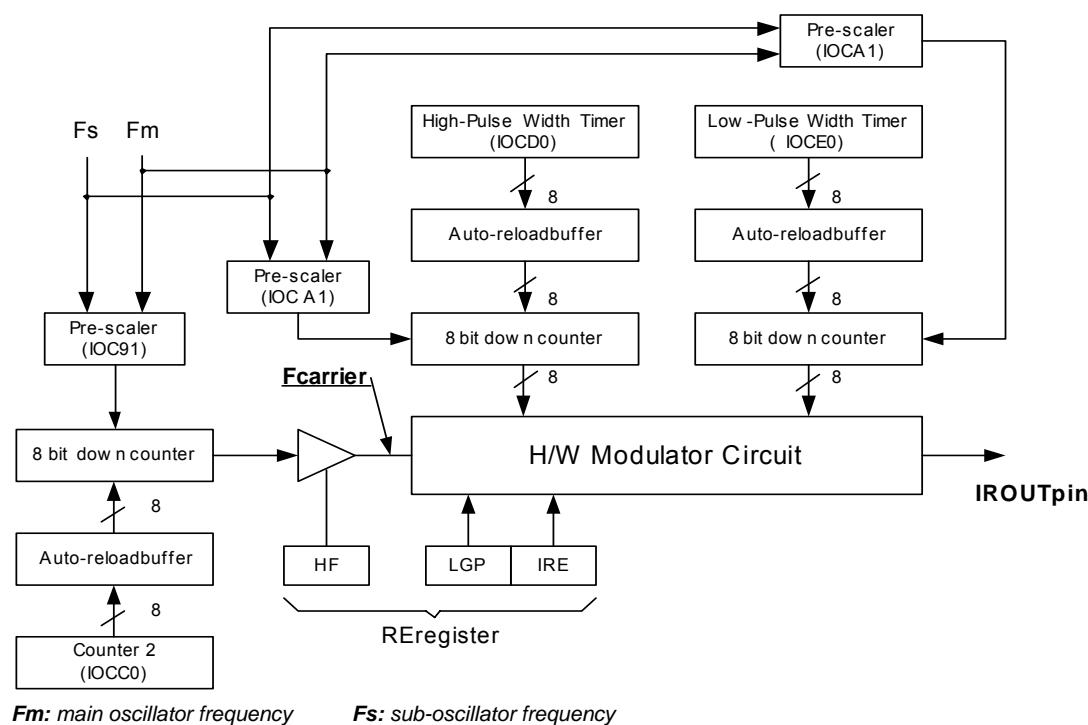

Figure 6-20 IR/PWM System Block Diagram
This LSI can output infrared carrier in user-friendly or in PWM standard waveform. The IR and PWM waveform generated functions include an 8-bit down count timer/counter, high-pulse width timer, low-pulse width timer, and IR control register. The IR system block diagram is shown in Figure 6-20. The IROUT pin waveform is determined by IR control register (RE), IOC90 (Counters 1 and 2 control register), IOCA0 (high-pulse width timer, low-pulse width timer control register), IOCC0 (Counter 2 preset), IOCD0 (high-pulse width timer preset register), and IOCE0 (low-pulse width timer preset register). Details on  $F_{carrier}$ , high-pulse time, and low pulse time are explained as follows: